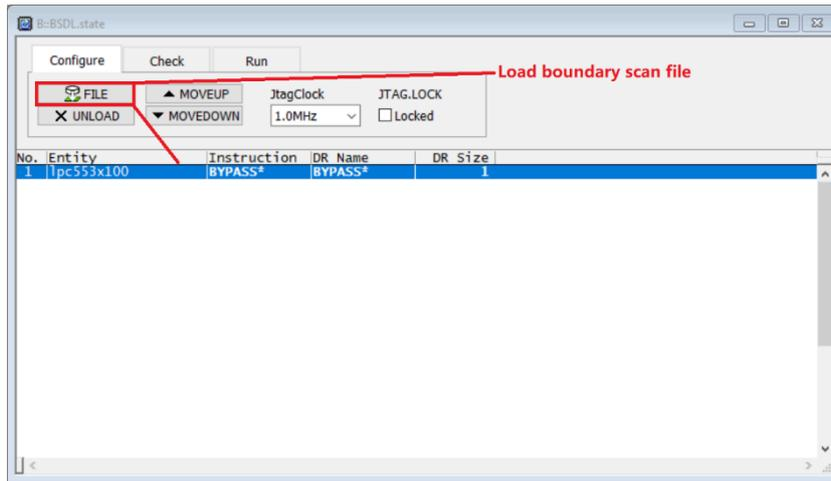

Figure 20. BSDL.state window
5. The **BSDL.state** window appears, as shown in Figure 20. Click the **FILE** button and load the BSDL file you want to validate.